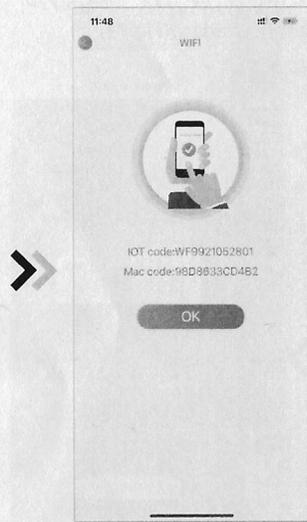

Fig.16 Bond device done interface
- Click "OK" to allow this APP to use the camera for scanning the barcode on heat pump unit (Fig. 15); click "OK", device bond is done (Fig.16);